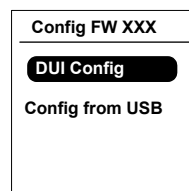

Figure 1-13 DUI Config screen
- j) After config firmware upgraded successfully, the following screen will appear on DUI (Refer to Figure 1-13 on page 1-15).
Note 2: If USB flash drive is connected to unit after step j, DUI may display "PRESS OK TO UPGRADE FIRMWARE" message. **Do not press OK. Wait for 15 seconds**, display will come back to DUI Config screen as shown in Figure 1-13 on page 1–15. Then proceed with next step.
- k) Select the DUI Config as shown in Figure 1-13 on page 1–15.